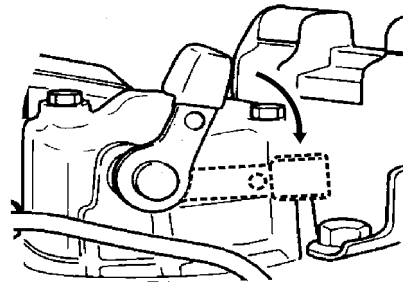

Figure 10. Decompression Lever
4. Push down the decompression lever (Figure 10) and release.